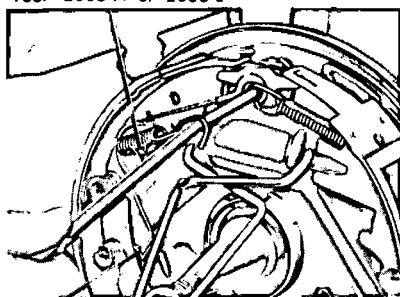

FIG. 9—Retracting Spring Installation
Place the cable eye over the anchor pin with the crimped side toward the backing plate. Install the primary shoe to anchor spring with the tool shown in Fig. 9.
2. Place a clamp over the ends of the brake cylinder as shown in Fig. 9.